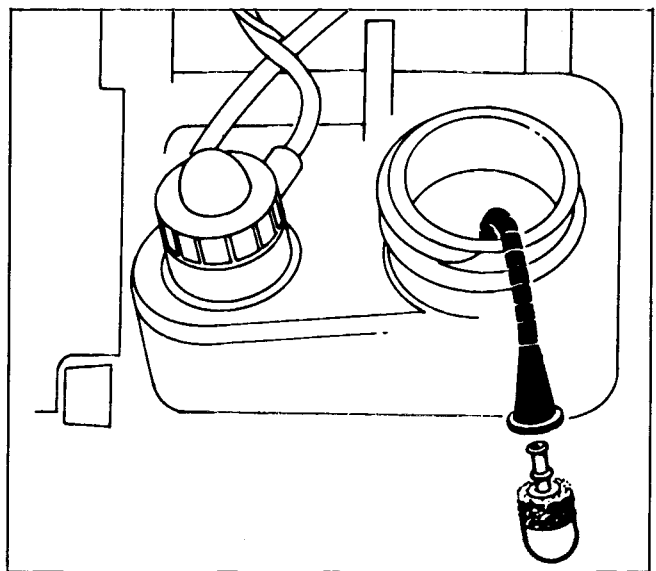

Figure 94
7. Replace the fuel filter on the pick-up tube inside the fuel tank. See Fig. 94.